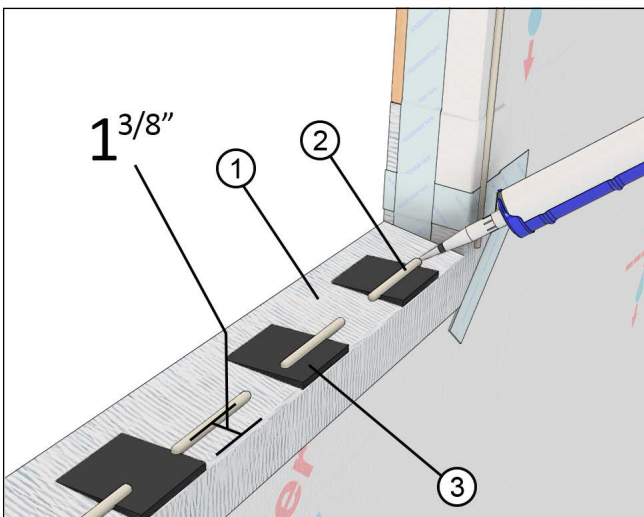

Figure 6
4. Place a discontinuous bead of sealant 1-3/8" from exterior edge of the RO sill stopping short of jamb edge for drainage. See Figure 6.